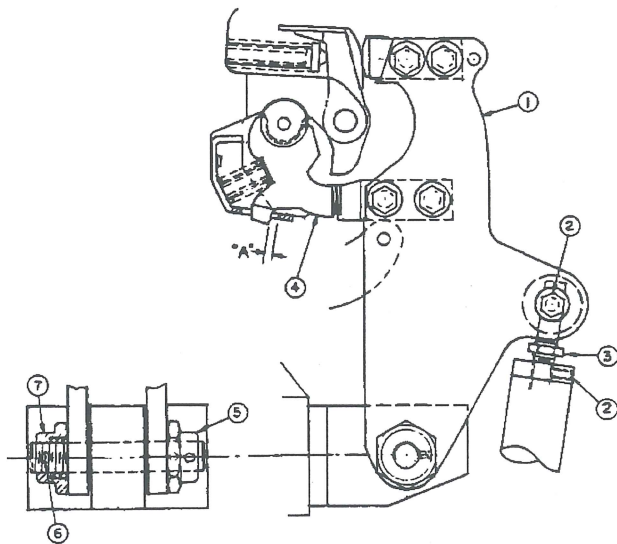

Fig. 4 — Contact Pressure and Bridge Pivot Pressure
**CONTACT PRESSURE (See Fig. 4)**
#### BRIDGE PIVOT PRESSURE (See Fig. 4)